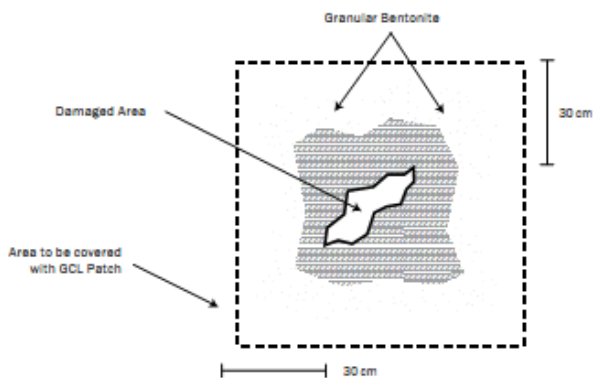

Fig. 17: Damage Repair by patching
1. If the **Claymat GCL** is damaged (torn, punctured, perforated, etc.) during installation, it may be possible to repair it by cutting a patch to fit over the damaged area (Figure 17). The patch should be cut to size such that a minimum overlap of 30 cm is achieved around all parts of the damaged area. Granular bentonite should be applied around the damaged area prior to placement of the patch. It may be necessary to use an adhesive such as wood glue to affix the patch in place so that it is not displaced during cover placement. Smaller patches may be tucked under the damaged area to prevent patch movement